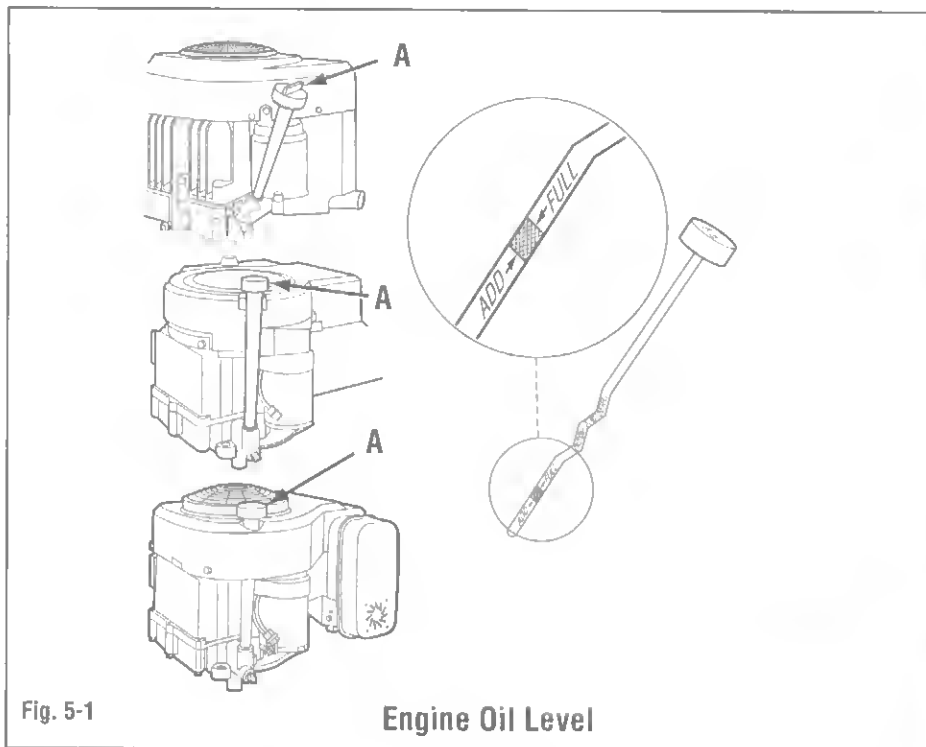

Fig. 5-1
- Remove oil dipstick (A, Fig. 5-1). Wipe oil from dipstick with clean cloth.
- Remove dipstick and check oil level. Oil level is indicated by marks on dipstick. Level should be between "Full" and "Add" marks (Fig. 5-1).